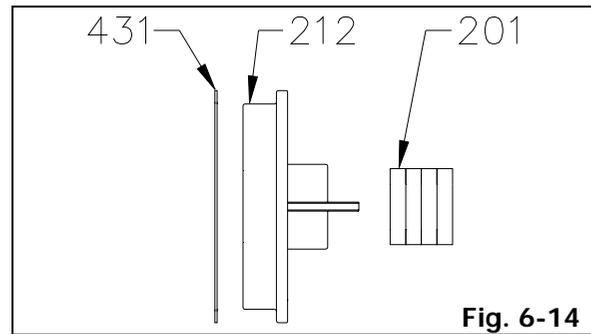

Fig. 6-14
- Remove packing (201) from stuffing box cover (212) (Fig 6-14).